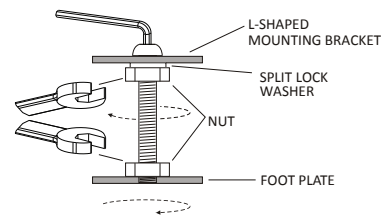

Figure 4-39
15. Hold the bolt and tighten the bottom nut against the foot plate, and the top nut up against the L-shaped mounting bracket, compressing the split lock washer. **See Figure 4-39.**